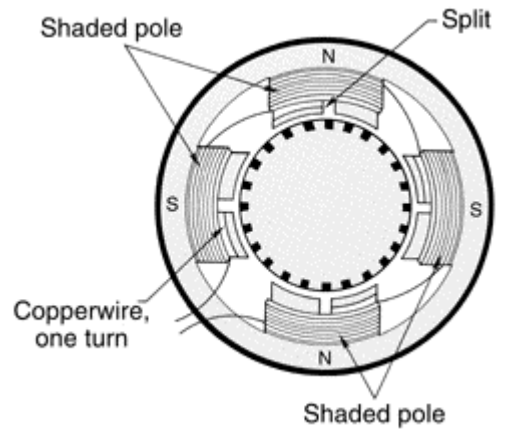

Figure 5 - Rings in shaded-pole motor distort alternating field sufficiently to cause rotation.
- *Shaded pole motors* have a continuous copper loop wound around a small portion of each pole, Figure 5. The loop causes the magnetic field through the ringed portion to lag behind the field in the unringed portion. This produces a slightly rotating field in each pole face sufficient to turn the rotor. As the rotor accelerates, its torque increases and rated speed is reached. Shaded pole motors have low starting torque and are available only in fractional and subfractional horsepower sizes. Slip is about 10%, or more at rated load.